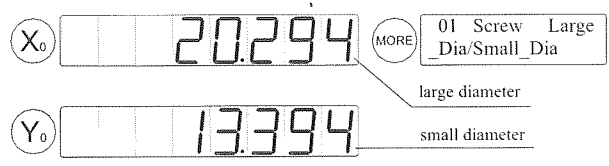

Figure1-32 Information2 of Screw Figure
2) Press , and the information is displayed as in figure1-32.